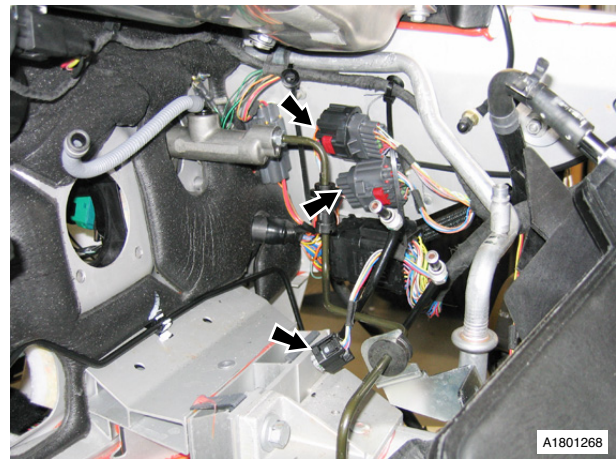

Fig. 35
83. Disconnect multiplugs forward harness to main harness (x3) (clipped to body x1) (see Fig. 35).